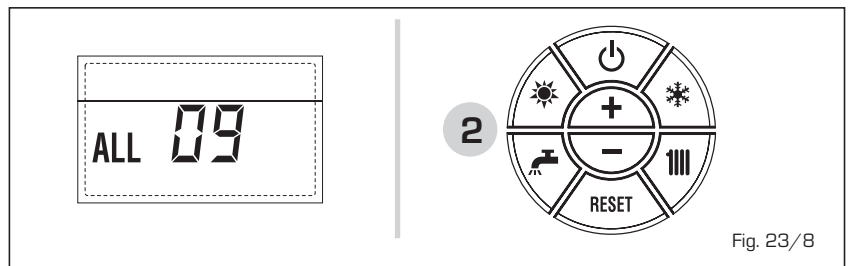

Fig. 23/8
- **AUXILIARY SENSOR ANOMALY ALARM 10 (fig. 23/9)**